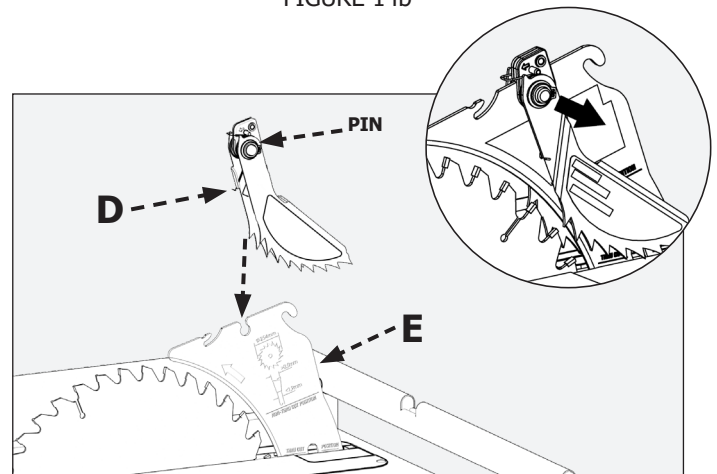

FIGURE 15
Riving knife (E) must be in the through cut position prior to installation of the anti-kickback pawls (D) and blade guard (F). Insert the pawl assembly (D) into the middle slot on the riving knife (E) as shown in FIGURE 15 while pressing the spring-loaded pin on the right side of the pawl assembly. Once inserted, release the spring-loaded pin so that it pops back in to place (FIGURE 15). Ensure that it is locked in place.